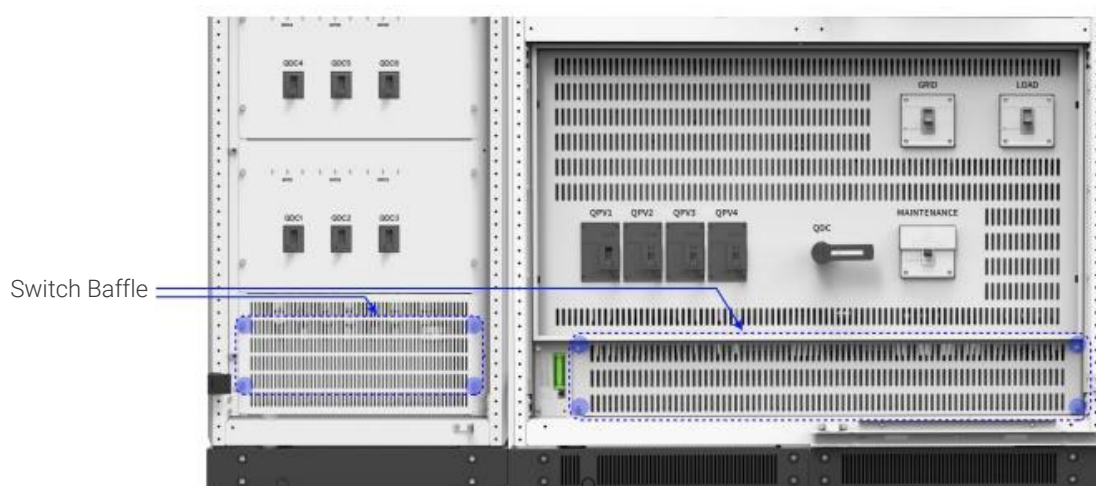

Figure 8: Switch Baffle
1. Open the front door as shown in Figure 8.